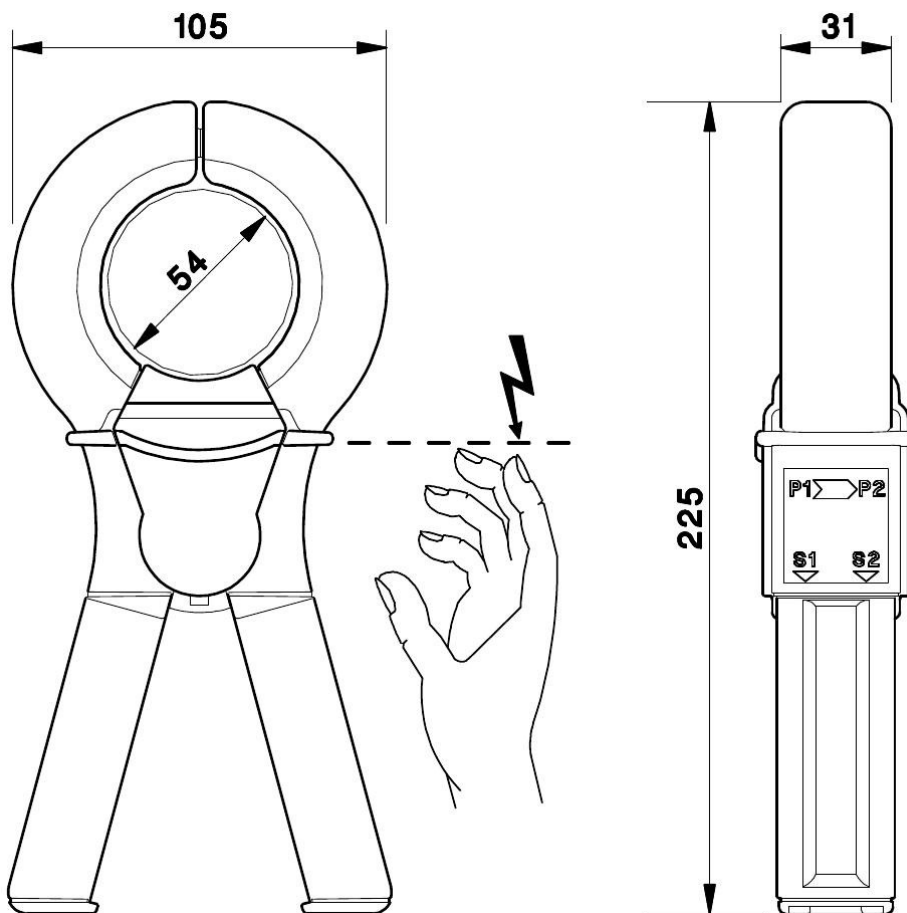

Figure 2.59: Dimensions in mm and protection against electric shock
- For protection against electric shock please refer to Figure 2.59 [→73]